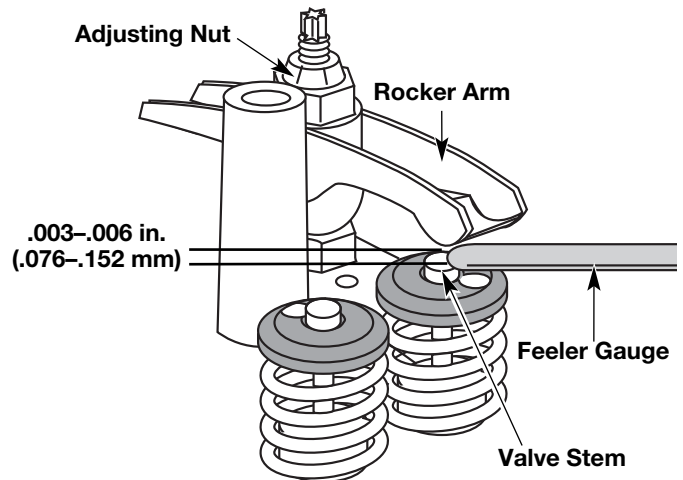

Fig. 72
- Turn the adjusting nut using a 5/16 inch (8 mm) wrench or nut driver (Fig. 72).